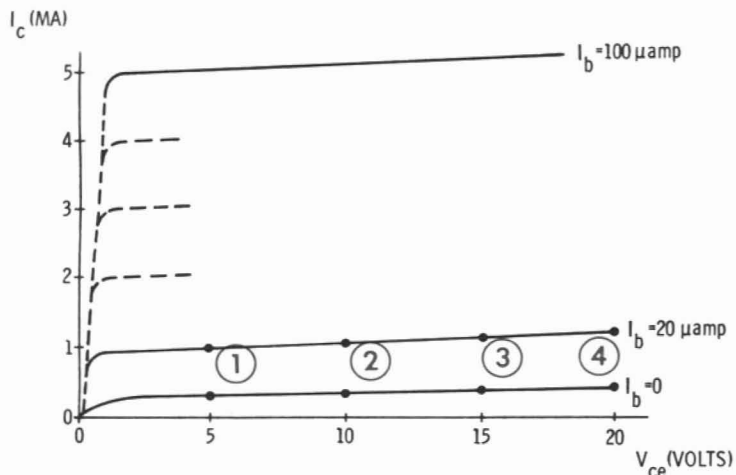

Fig. 3-22. Output curves (partial).
Fig. 3-22 shows a portion of the family of curves that results from measurements taken for different values of  $I_b$ . Start with  $I_b = 0 \mu\text{amps}$ . Set the collector voltage to 5 volts and measure  $I_c$ . This is point ① on the curve. Then set the collector voltage to 10, 15 and 20 volts, measuring
**Q3-33.** From Fig. 3-22, determine the collector current for a constant  $I_b = 20 \mu\text{amp}$  as the collector voltage is increased from 5 volts to 20 volts.